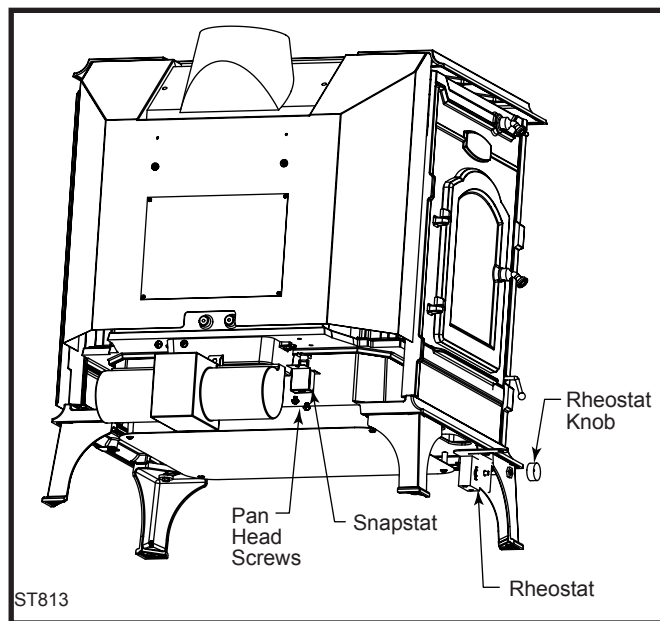

Fig. 27 Fan installation.
1. Secure the fan assembly to the inner back with two (2) 1/4-20 x 3/4" hex head screws and one (1) 1/4" star washer as shown in Figure 27.
2. Attach snapstat to the mounting holes on the underside of the bottom with two (2) 1/4-20 pan head screws.